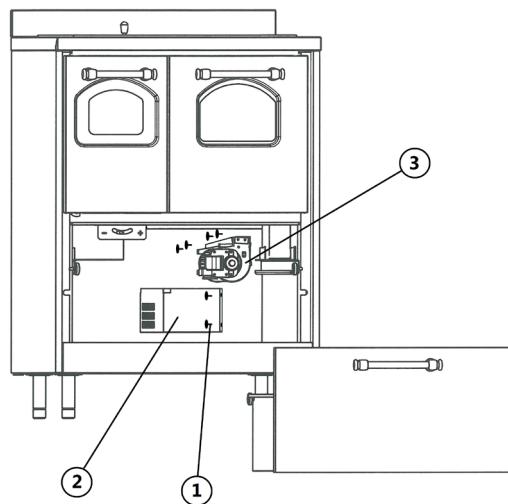

Fig. 17 - Fan replacement
LEGEND Fig. 17 page 20
- Unscrew the 4 screw placed at the sides of the fan protection carter (see **Fig. 17 page 20**).